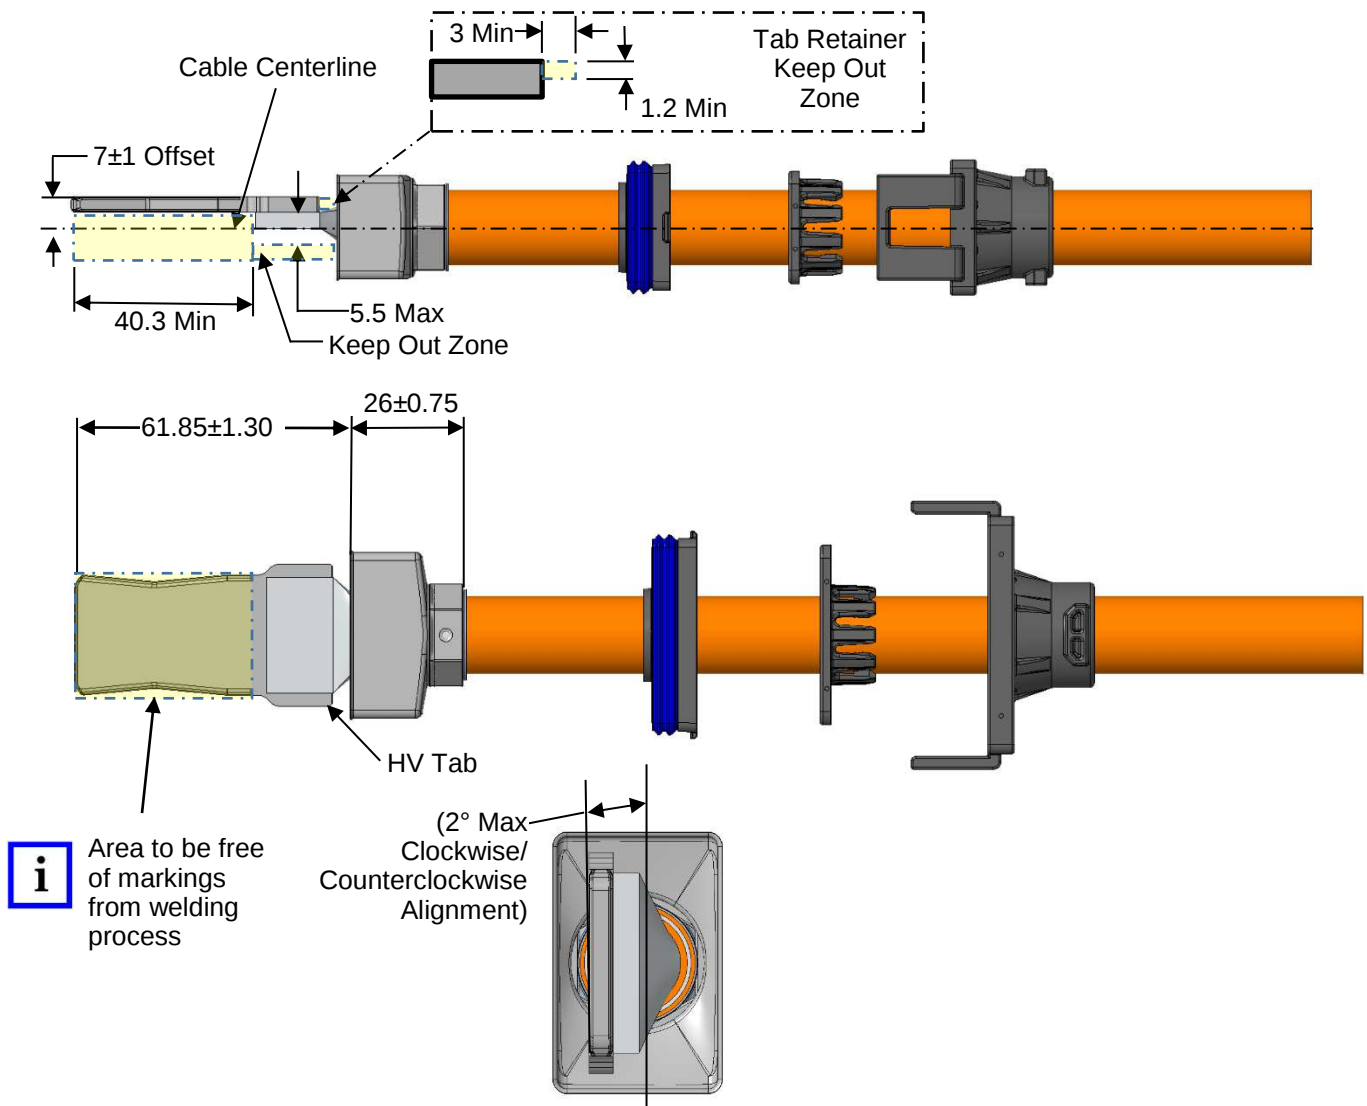

Figure 10: HV Tab ultrasonic welding
7. Ultrasonic weld HV Tab as shown in Figure 10. See SAE/USCAR-38 for weld bond appearance, mechanical and electrical requirements. Ensure that the keep-out zones are not violated. This is critical to ensure proper assembly.